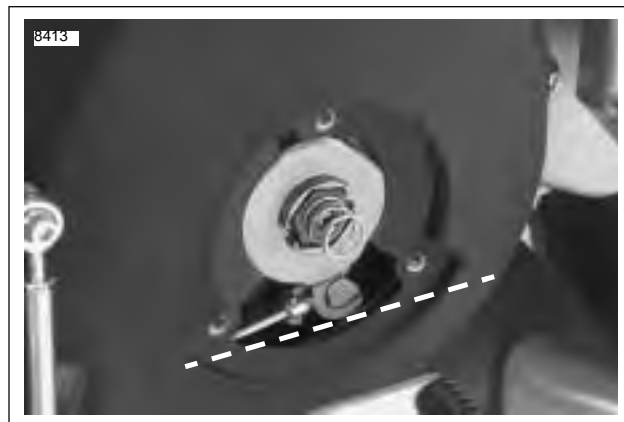

Figure 1-19. Fluid Level
5. See Figure 1-19. Add SPORT-TRANS FLUID (Part No. 98854-96 quart size; Part No. 98855-96 gallon size) as required until fluid level (3) is even with bottom of clutch diaphragm spring (2).